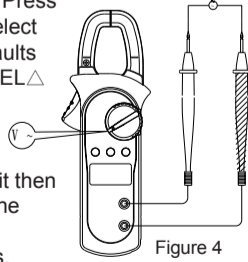

Figure 4
2. AC voltage measurement (V_{AC}) (See Figure 4)